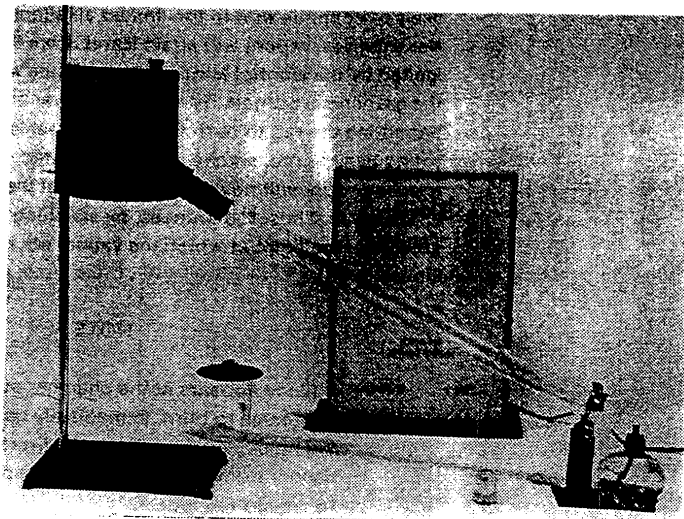

Figure 5. Gasoline Vapor Is Heavier Than Air.
1. Set up the apparatus exactly as shown in Figure 5 with the slot in the tube facing up and the alcohol lamp positioned approximately 1 to 2 inches (2.5 to 5 cm) from the slotted tube.